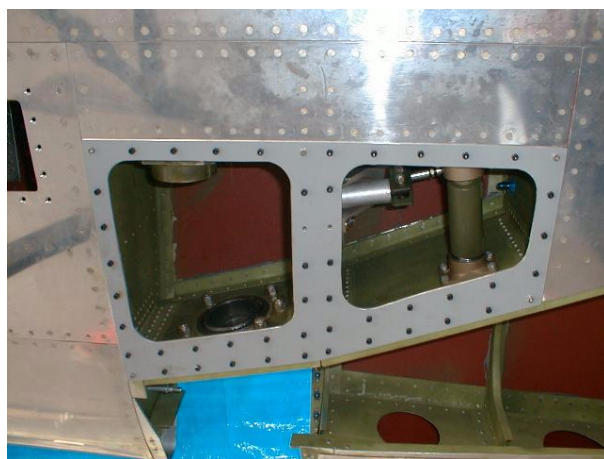

Figure 3.5. Cutout plates hold the center rib in position.
*Before you put any severe side loads on the main gear you must make arrangements to support the bottom of the rib at WS 43.25.* If you do not do this you are likely to bend the rib, knocking your carefully aligned downlock hardware out of whack. One way to do this is to install the cover plates on the bottom of the wings, however this obviously prevents access to the actuators and downlock assemblies. Jim recommends fabricating a couple of new covers (Figure 3.5) from 0.125" aluminum plate, then cutting out the centers of each bay 0.5" or so inboard of the screws. This is apparently sufficient to secure the rib bottom, at least for purposes of testing on the stands and moving about the hangar. It may or may not be strong enough to taxi the aircraft. It would probably be wise to play it safe and install the original covers before you taxi.